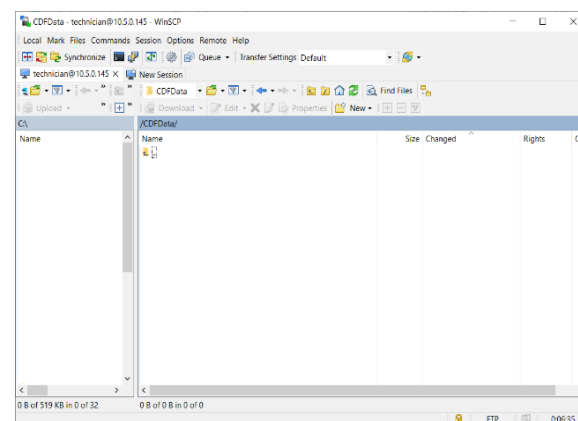

Figure 69: The contents of the 'CDFData' folder when using an FTP client.
3. Open the **CDFData** folder. The CDFData folder will open and display the available files (**Figure 69**).